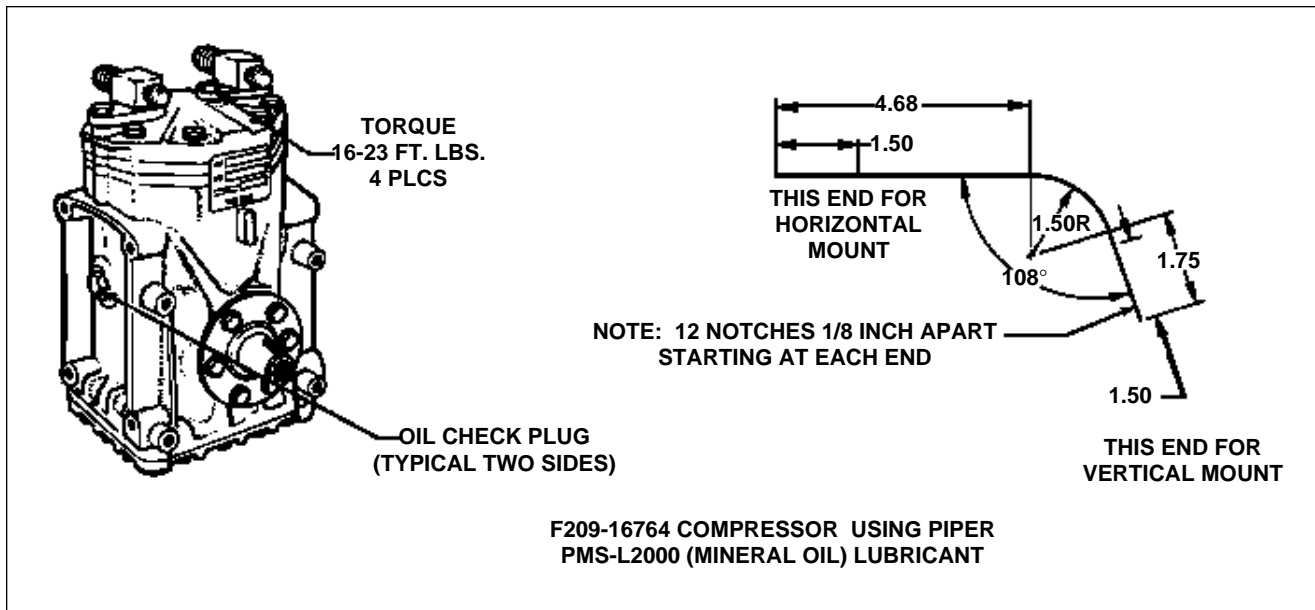

Figure 14-8. Compressor and Fabricated Oil Dipstick
- (1) Discharge system. (Refer to Paragraph 14-12.)
- (2) Make an oil dipstick. (Refer to Figure 14-8.)
- (3) Remove 0.375 inch oil fill plug in top side of compressor crankcase.
- (4) Before inserting dipstick, crankshaft Woodruff key must be in up position. (Front face of compressor clutch is marked with a stamped K indicating key position.) Measure oil level from lowest point in crankcase. Use long end of dipstick. (See Figure 14-8.)
- (5) When compressor is installed, use Table XIV-VI for proper amount of oil in crankcase.
- (6) Do not operate compressor with less than 6 ounces oil. Oil level must not exceed 10 ounces total oil. Use Piper refrigerant oil PMS-L2000 or equivalent 500 viscosity refrigerant oil.
- (7) Evacuate and charge system. (Refer to Paragraphs 14-10 and 14-13.)